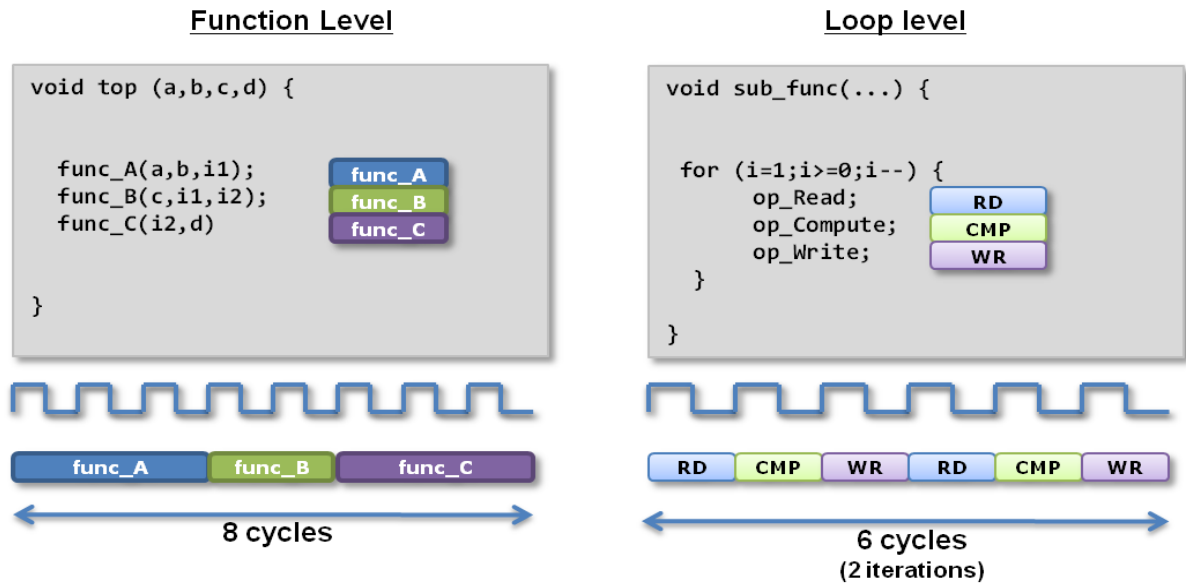
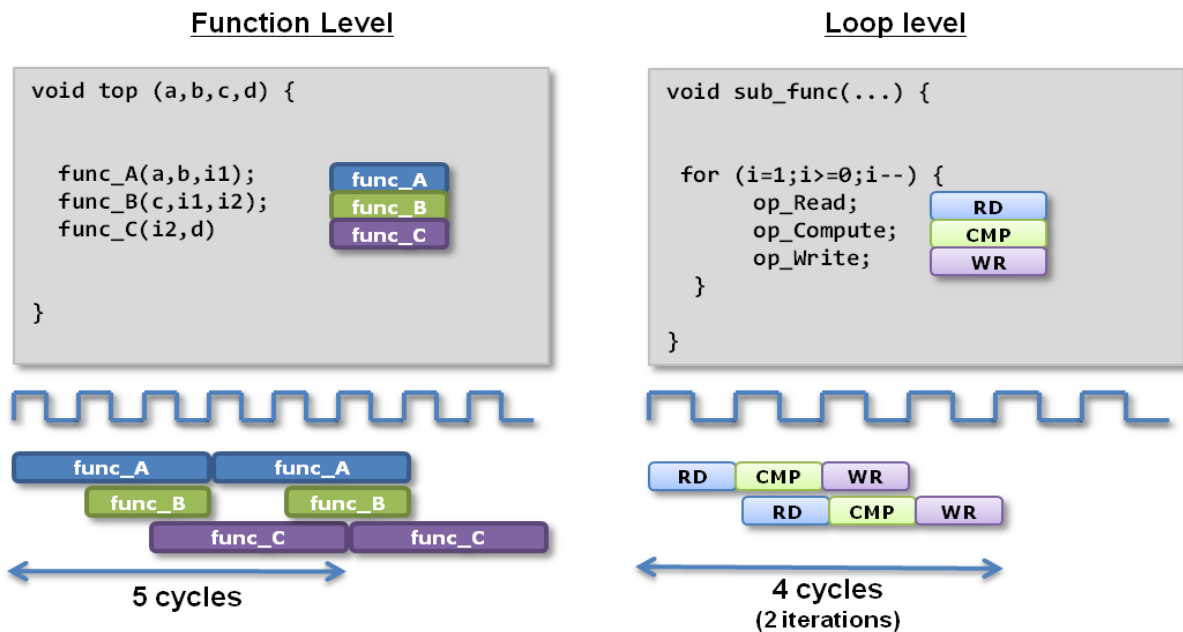

Figure 2-3: Functions & Loops Without Pipelining
Figure 2-4: Functions & Loops With Pipelining
A C program operates in a sequential manner. Given the function "top" shown on the left-hand side of Figure 2-3, every sub-function from "func_A" to "func_C" must complete its operation before "func_A" can once again execute.
As function "sub_func" on the right-hand side of Figure 2-3 shows, it is the same at the operator level: the first operation cannot re-execute until the last is complete.
Figure 2-4 shows the result when High-Level Synthesis is used to pipeline the sub-functions and/or operations in a loop.
- Compared with the previous implementation in Figure 2-3, the 8 clock cycles it took to execute the function is now only 5 cycles and “func_A” starts a new operation every 3 clock cycles instead of every 8.
- Figure 2-4 shows how loop pipelining can also positively performance compared with Figure 2-3: the loop completes in only 4 clock cycles and processes an new input (RD operation) every clock cycle instead of waiting for 3 clock cycles.